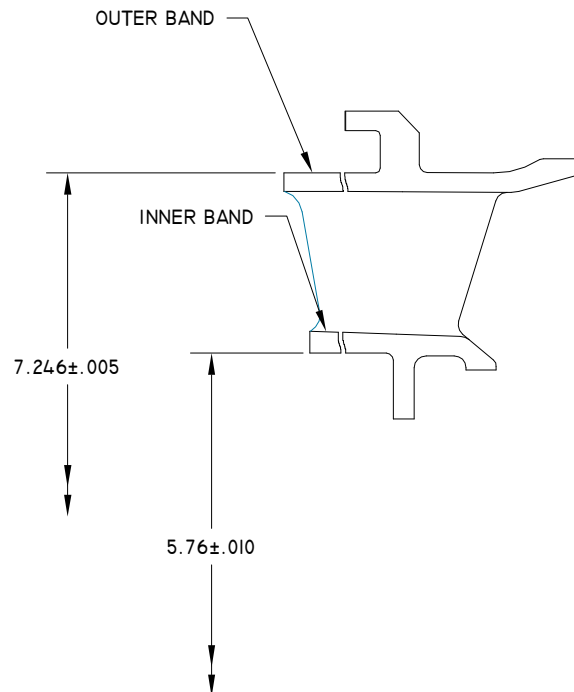

FIGURE 1
Instructions are provided for braze repair of inner and outer band cracks. Figure 1 depicts key features of the subject stators.
- Hand finish or machine to original dimensions (Figure 1)